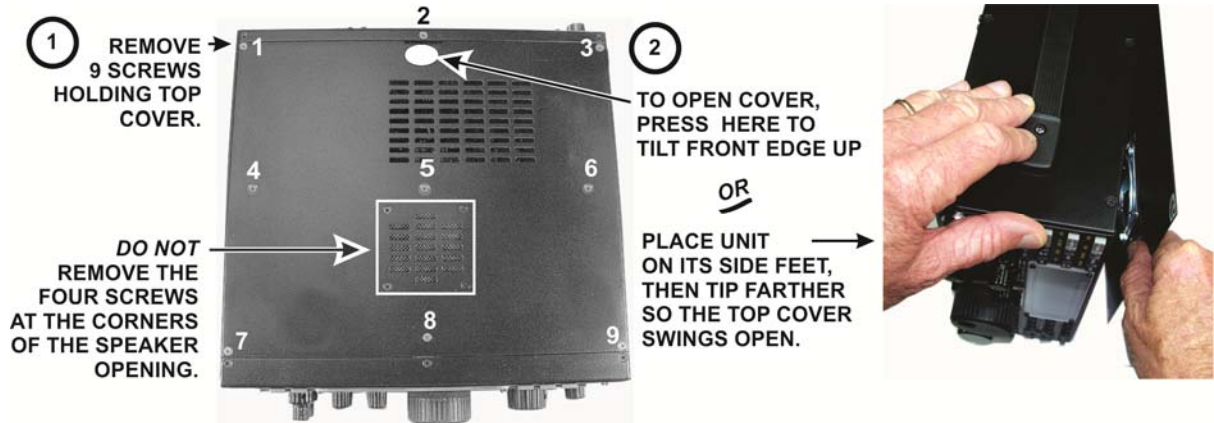

Figure 1. Removing the Top Cover.
- Remove the nine screws to free the top cover as shown in Figure 1. After removing the screws, lift the cover gently to reach the speaker wire connector. Unplug the speaker then set the top cover aside in a safe place.